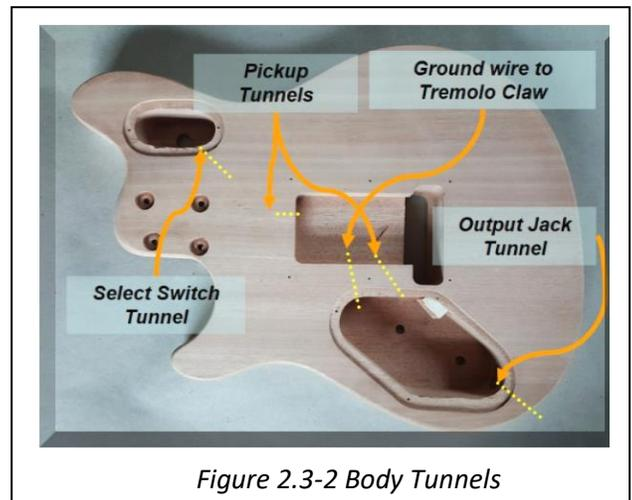

Figure 2.3-2 Body Tunnels
1. From the front of the Body, carefully run the Neck Pickup shielded pickup wire through the tunnel between the Neck pocket and the Switch pocket (Fig. 2.3-2), ensuring that the pickup is flush against the Body;